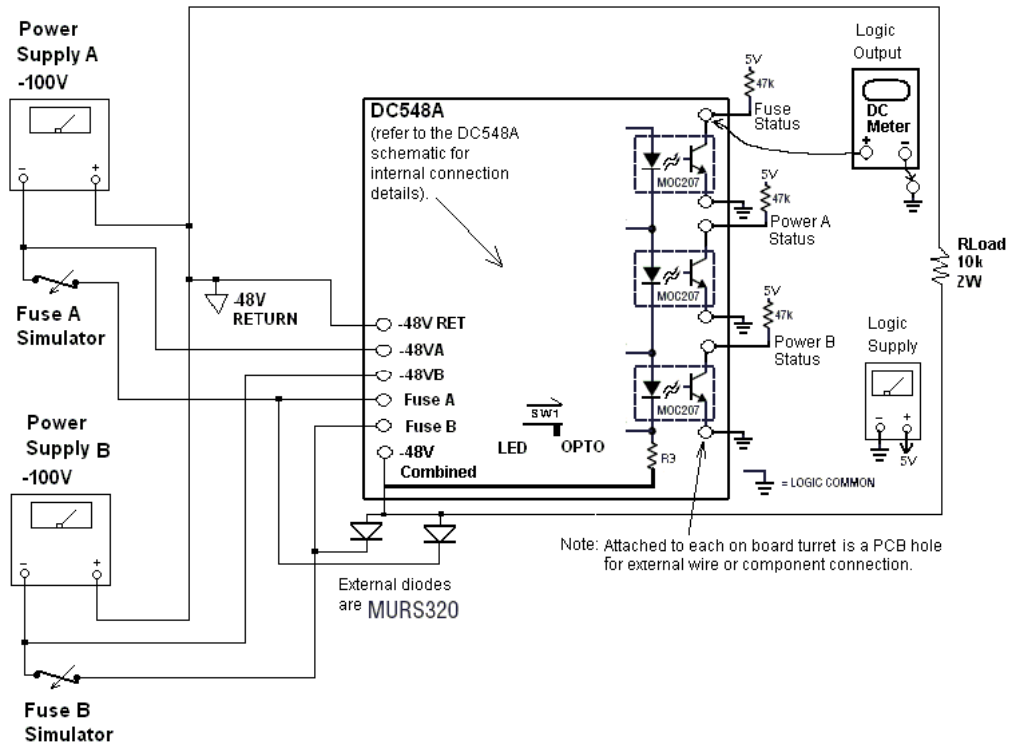

Figure 3. Setup for opto-isolator output
Refer to Figure 3 (Opto Output) or Figure 4 (LED Output) for proper measurement equipment setup and follow the procedure below:
a. Figure 3 set-up: the FUSE status and Power A and B status levels are Lo ($<0.5\text{V}$)
NOTE: For a Figure 3 set-up (Opto Output), the status levels can be monitored with the minus input of a voltmeter connected to Logic ground and the plus input to the DC548A test turret corresponding to the status indicator. For example, on the DC548A schematic, the TP7 test turret is connected to the Fuse Status opto-isolator. The test turret designation is not on the DC548A silk screen.
a. Figure 3 set-up: the FUSE status level is Hi ($>2.5\text{V}$).
a. Figure 3 set-up: the Power A status level is Hi ($>2.5\text{V}$).
a. Figure 3 set-up: the Power B status level is Hi ($>2.5\text{V}$).
a. Figure 3 set-up: the Power A and Power B status levels is HI ($>2.5\text{V}$).